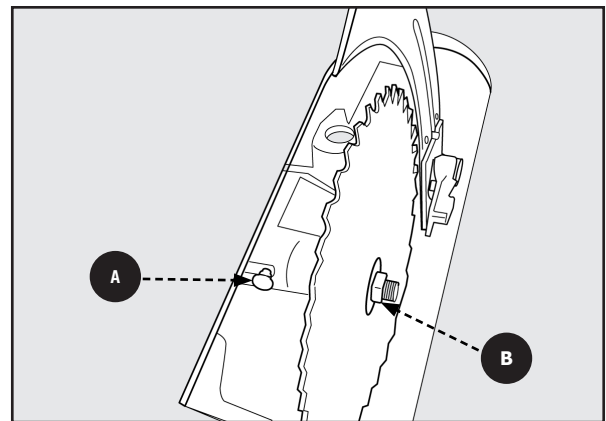

Figure 39
2. Push and hold arbor lock button **A**, see Figure 39.